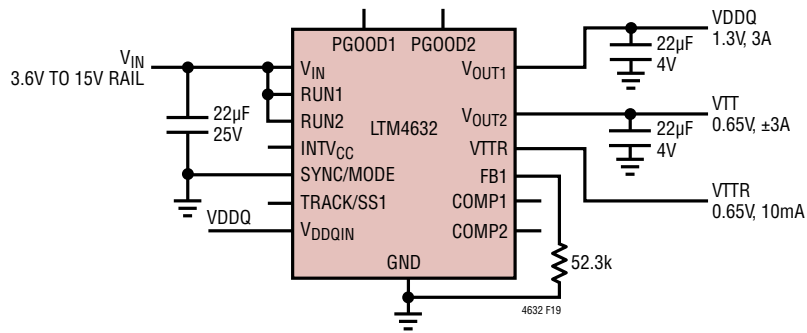

Figure 19. 3.6V to 15V Input, 1.3V/3A VDDQ, 0.65V/±3A VTT and 10mA VTRR Design
**Table 5. Output Voltage Response for Each Regulator Channel vs Component Matrix (Refer to Figure 19)